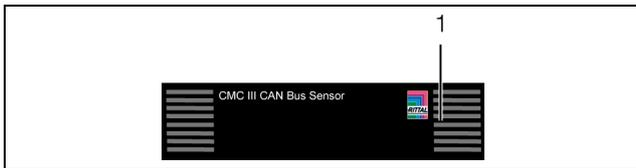
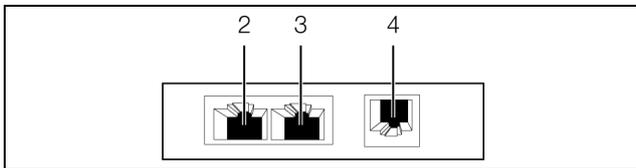

Fig. 12: Front of the CAN bus sensor
Fig. 13: Rear of the CAN bus sensor
A multi-LED for the status display is integrated into the front of the CAN bus sensor (fig. 12, item 1). Additional LEDs are located at the rear on the CAN bus connection (fig. 13, item 2 and item 3).